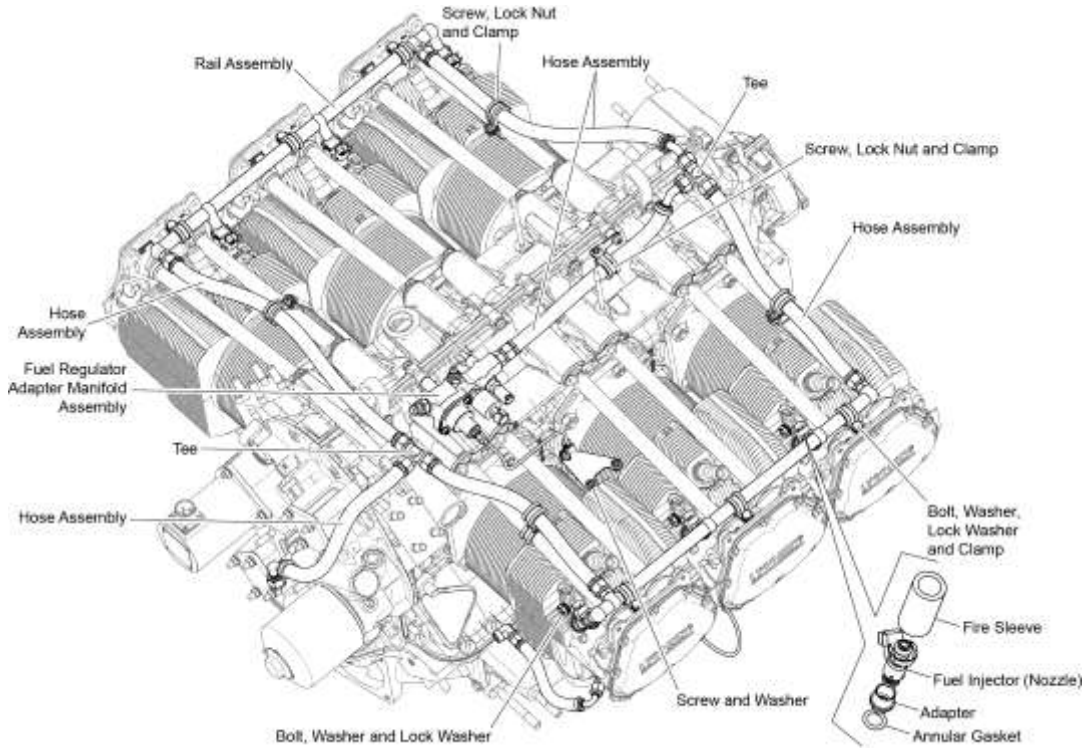

Figure 1
- C. Examine the two fuel injector rail assemblies (Figure 1) for damage, leaks, and loose fittings or connections. Tighten any loose fittings or connection in accordance with the Standard Torque Tables in the latest revision of the *Service Table of Limits - SSP-1776*. Replace a damaged fuel injector rail per the “Fuel Injector Rail Assembly Replacement” section in this chapter.
- E. Examine the fuel injector and fire sleeves (Figures 1 and 9) for damage, leaks, and loose fittings or connections. If the fuel injector fire sleeves are damaged, replace them. Tighten any loose fittings or connection in accordance with the Standard Torque Tables in the latest revision of the *Service Table of Limits - SSP-1776*. Replace a damaged fuel injector per the “Fuel Injector Replacement” section in this chapter.